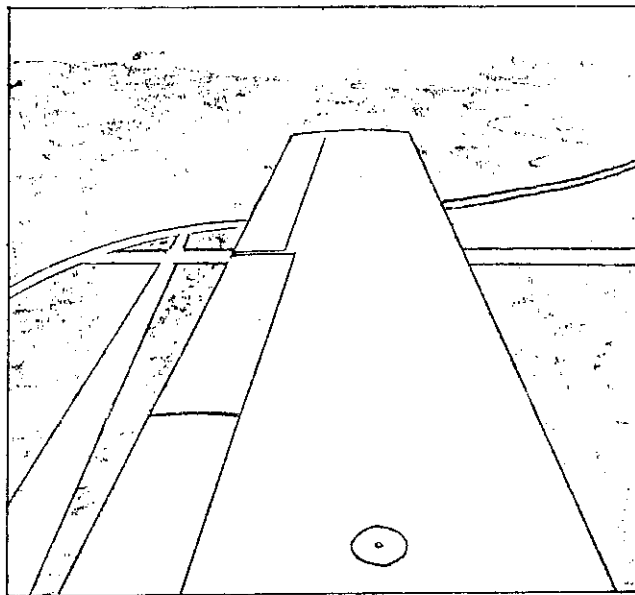

Fig 13.3 Judging distance out from runway
29 **Crosswind turn** You normally start this turn at 500 ft but, starting the turn, the speed and direction of the wind must be considered, as it will affect the amount of bank you need to use during the turn. Your aim is to fly downwind at the same distance from the runway on each circuit (Fig 13.3). If the wind is tending to blow you towards the runway during your crosswind turn, you must apply less bank during the turn if you want to end up the correct distance from the runway. If the wind is blowing you away from the runway you will need extra bank. With no crosswind you will need about 15° of bank. In very strong wind conditions you may have to climb above 500 ft before starting your turn to make sure that you can finish your turn before reaching the downwind call position. Now you want to roll out of your turn on a heading that will track you parallel to the runway; assess your probable downwind leg drift and make an allowance for it when rolling out of the crosswind turn. You are now starting your downwind leg.
- * Check that you are the correct distance out from the runway. At the correct distance out, the landing path should appear under the join between the flap and the aileron (see Fig 13.3)